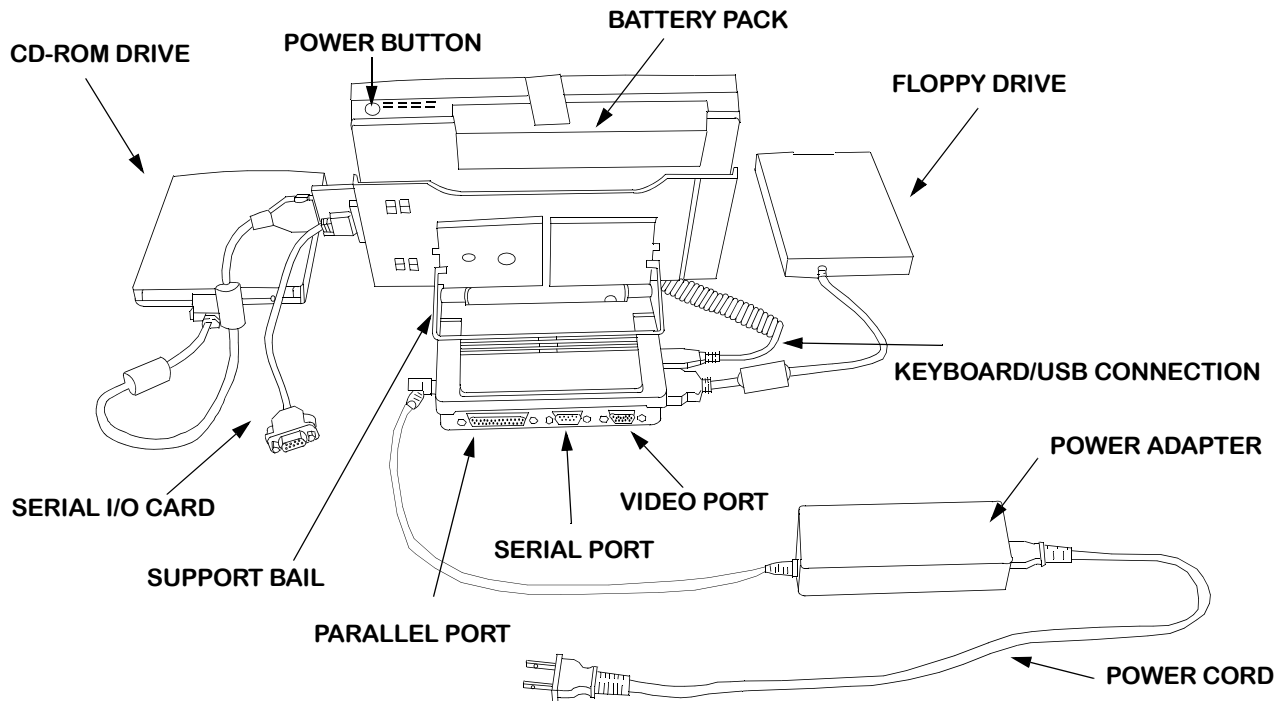

Figure 15 Configuration of Mini Dock Station with Pen Tablet Attached
- a. If required, remove Pen Tablet from Slip Case and connect to the Mini-Dock station, refer to **Figure 15**.
- b. Ensure Mini-Dock Station is fully configured. Refer to **Figure 15**.